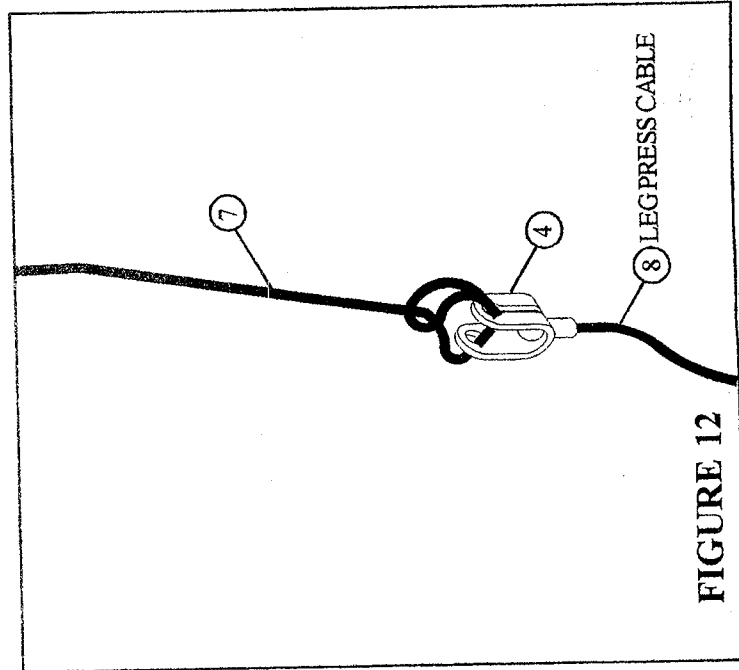

FIGURE 12
- Assemble one 72" ELASTIC CORD (7) to the KEYHOLE CLEVIS (4) as shown in FIGURE 12.